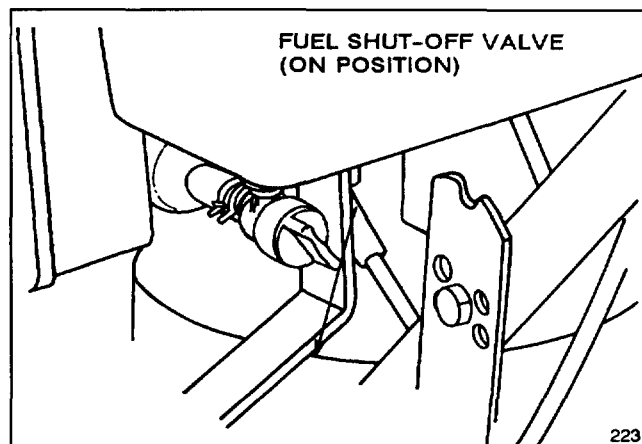
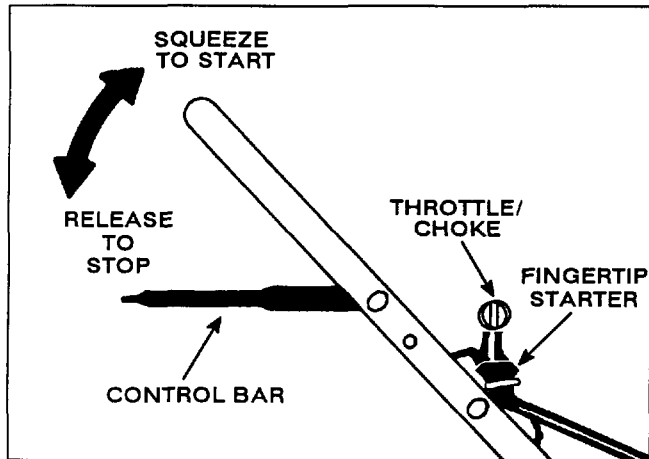
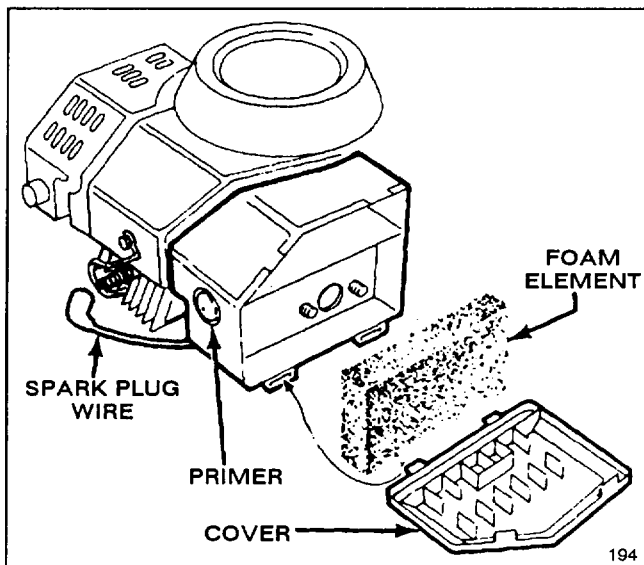

Figure 6
Figure 7
Figure 10
3. Turn fuel shut-off valve to ON position (Fig. 6).
1. **CONTROLS** (Fig. 7)—Throttle/choke, control bar, and fingertip starter are on upper handle.
2. **STARTING**—Push spark plug wire onto spark plug (Fig. 10). Move throttle control (Fig. 6) to CHOKE. Cover hole in center of primer with thumb and push once (Fig. 10). Hold control bar against handle. Pull fingertip starter (Fig. 7) out until positive engagement results; then pull vigorously to start the engine. Regulate throttle as desired when engine starts.
3. **STOPPING** (Fig. 7)—Release control bar and stay behind handle until engine and blade stop. Pull wire off spark plug if mower will be unattended or not used.
1. Stop the engine and pull the wire off the spark plug (Fig. 10).
1. Stop engine and pull wire off spark plug (Fig. 10).
2. Lift tabs at top of air cleaner cover and pivot cover down. Clean cover thoroughly (Fig. 10).
3. If outside of foam element is dirty, remove it from air cleaner body (Fig. 10). Clean thoroughly.